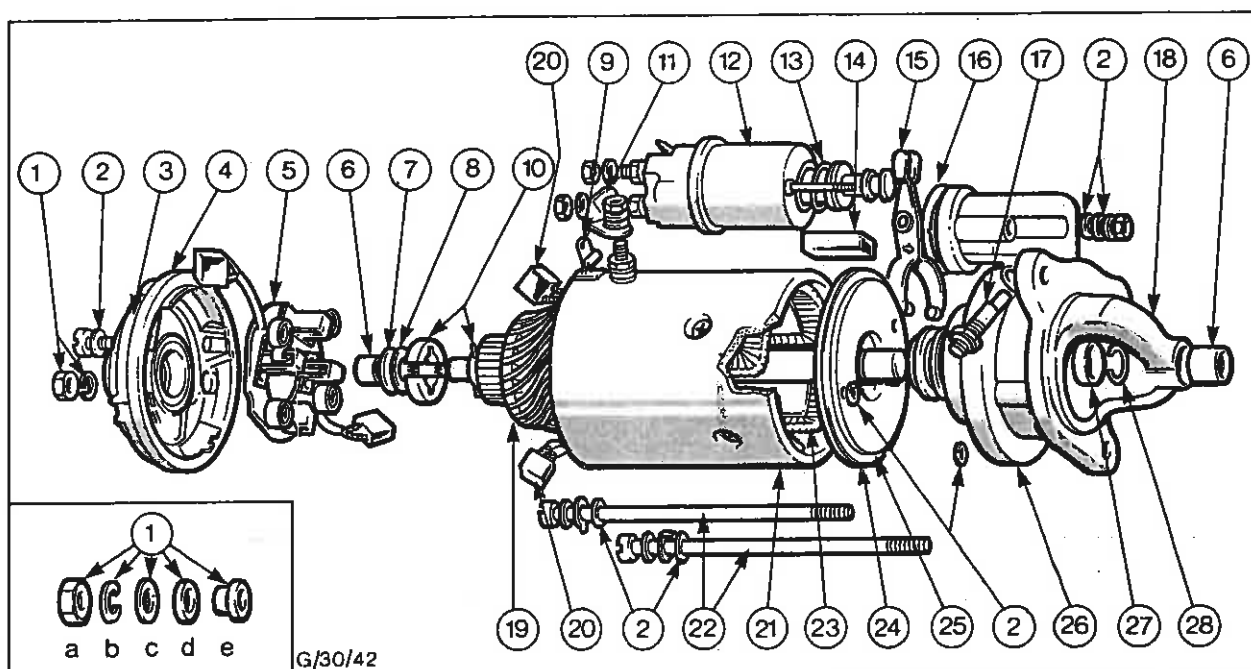

Fig. 1 - Starter, Dismantled. Inset Shows Different Negative Terminal Components for Marine Version
The pre-engaged starter (Fig. 1) is a four pole four brush machine of 127 mm (5 in) diameter, having a solenoid operated roller clutch drive. The solenoid incorporates two sets of contacts which provide two-stage switching. When the starter is operated the pinion moves into full engagement with the engine flywheel ring-gear and the first and second stage contacts of the solenoid close simultaneously, connecting all four field coils of the starter to the battery; full cranking torque then develops.
4. At both ends of the through bolts, at the earthing stud, solenoid fixing studs, and brush gear plate securing screws (in the outer face of the commutator end cover), see Fig. 1.